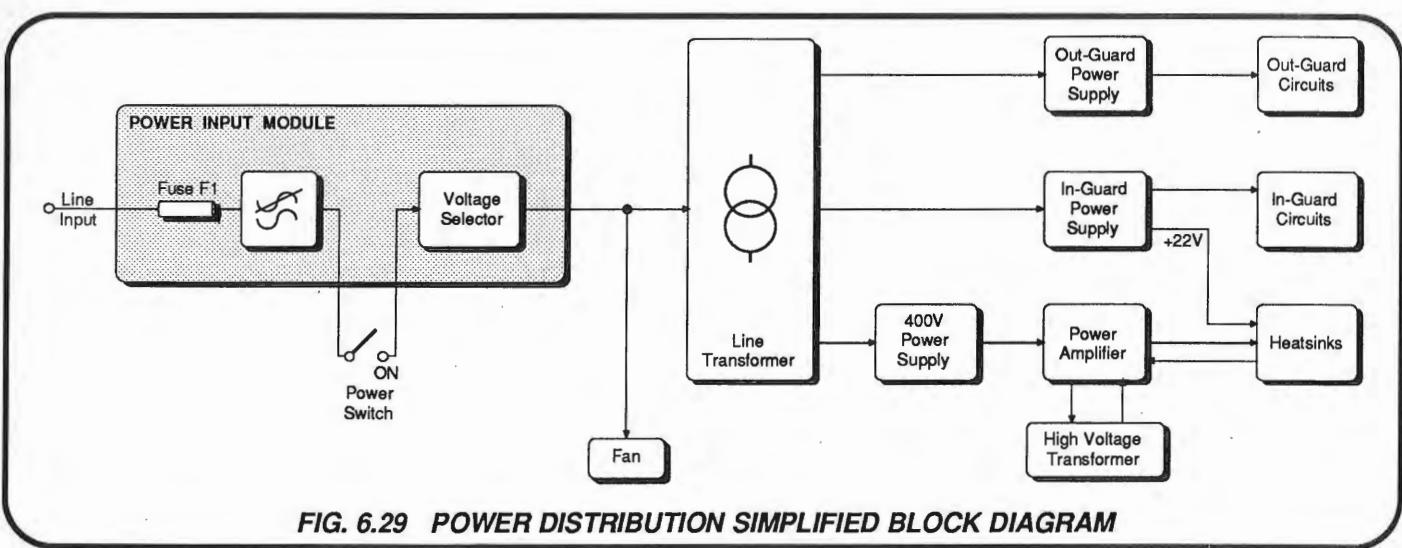

FIG. 6.29 POWER DISTRIBUTION SIMPLIFIED BLOCK DIAGRAM
A simplified power-distribution block diagram appears at Fig. 6.29.
6.7.1 LINE POWER DISTRIBUTION (Fig.6.29) (Circuit Diagram 430439 Page 11.17-2)